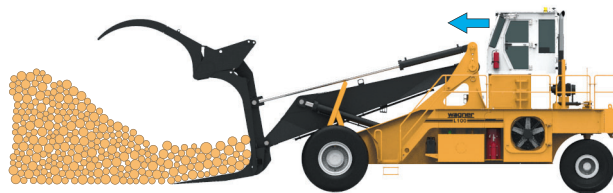

Figure 4-9-1
4. Approach the pile with enough speed to utilize the machine's momentum to fill the carriage. (See Figure 4-9-1.)